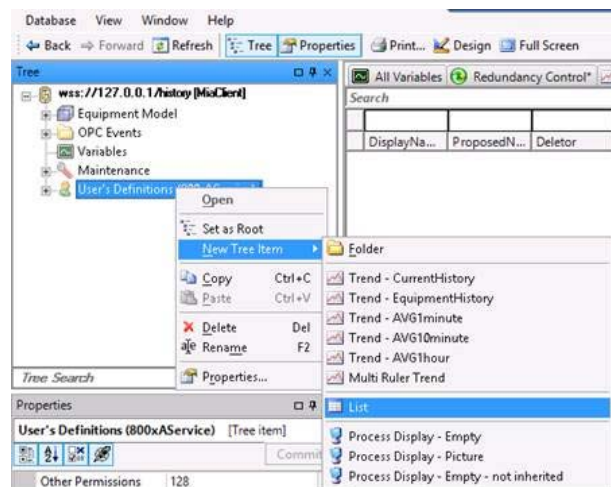

Figure 221. Vtrin Tag Deletion
2. Right click on **User's Definitions (800xAService)**, select **New Tree Item-> List** as shown in Figure 221 and name the table as “TagsDeleted”.